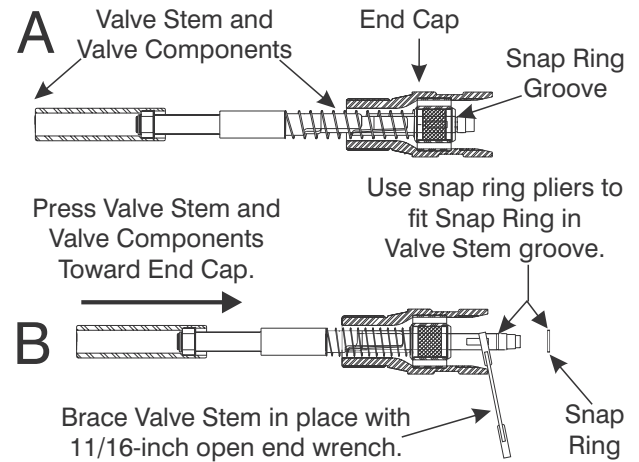

Figure 9-25. Install Snap Ring on Valve Stem.
3. By hand, press the Valve end of the Valve Stem (5) toward the End Cap until the flats on the stem are accessible as shown in Figure 9-25.
4. Fit an 11/16-inch open-end wrench across the exposed flats of the Valve Stem. Brace the wrench against the edge of the End Cap and pry the stem outward with enough force to prevent the Valve Stem from pulling back into the End Cap as shown in Figure 9-25.
5. Use needlenose or snap-ring pliers to expand the Snap Ring (3) and slide it into the groove in the Valve Stem (5). Refer to Figures 9-25-B and 9-26.